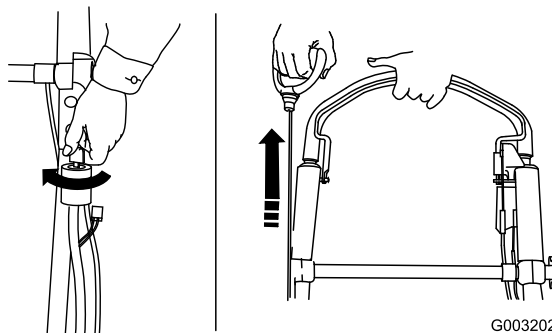

Figure 24
2. Hold the engine stop lever against the handle and immediately start the engine using either the ignition key or the recoil starter (Figure 24).